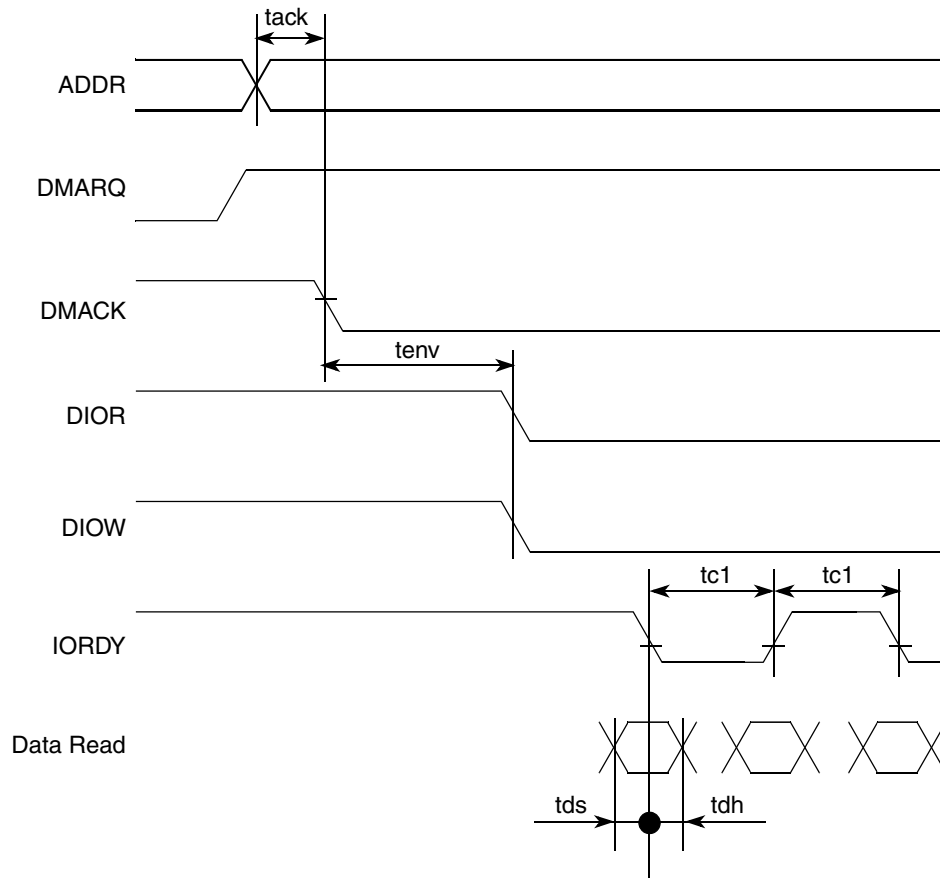

Figure 27. UDMA In Transfer Start Timing Diagram
- Figure 27 gives timing for UDMA in transfer start